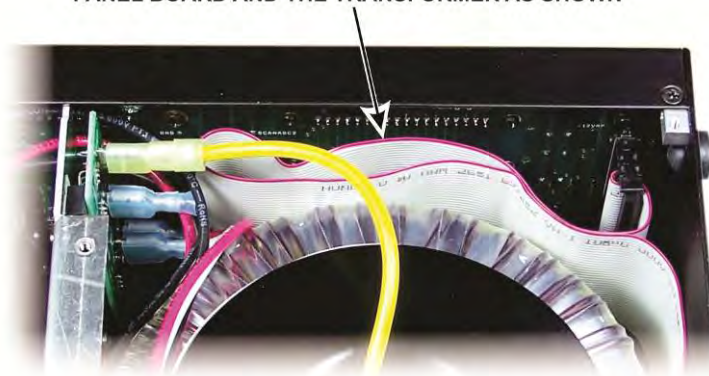

Figure 61. Routing Long Ribbon Cable.
□ Mount the front panel assembly on the KPA500 as shown in Figure 60. If the wide ribbon cable is longer than necessary loop it back and forth behind the front panel board in the space directly in front of the power transformer as shown in Figure 61. The front panel fits between the side panels. If the fit is too tight, loosen some of the screws near the front on the side panels, particularly on left side panel since it is less rigidly held in place. Be sure to tighten all the screws after the assembly is in place.